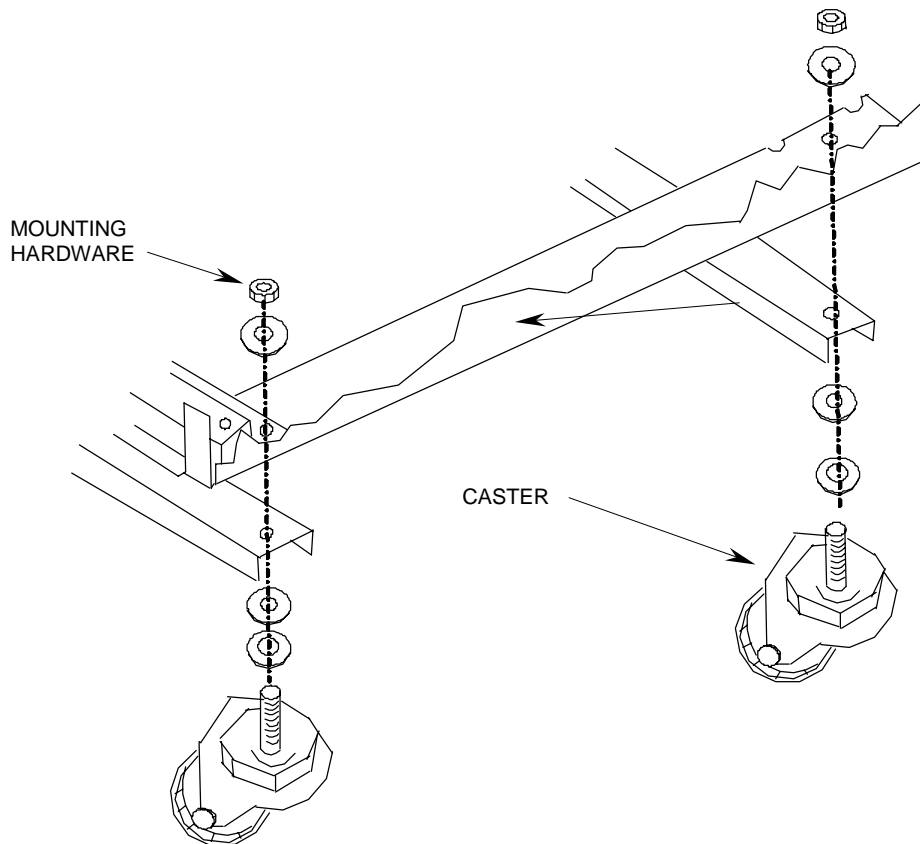

Figure 2. Swivel Caster Replacement.
**Caster:** See Figure 2. To replace a front caster, unsnap and remove the grille at the bottom of the refrigerator, then remove the drip pan. To replace a rear caster, remove the access cover at the bottom rear of the unit.